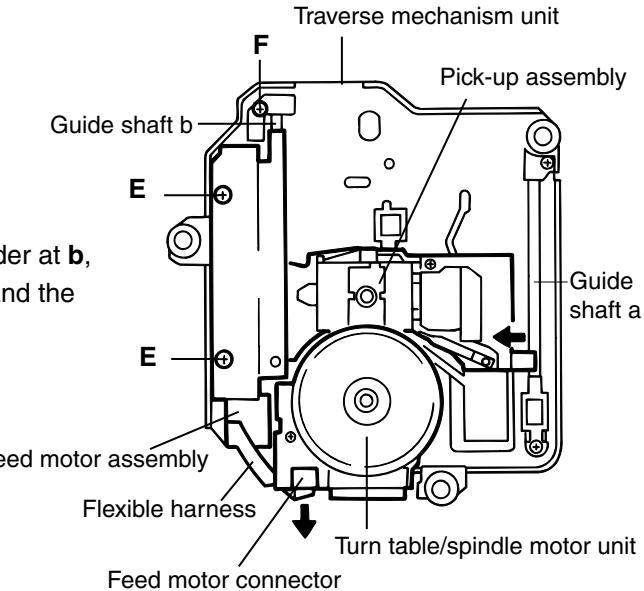

Fig.9
■ Removing the feed motor unit (See Fig.9)
■ Removing the optical pickup unit (See Fig.9)